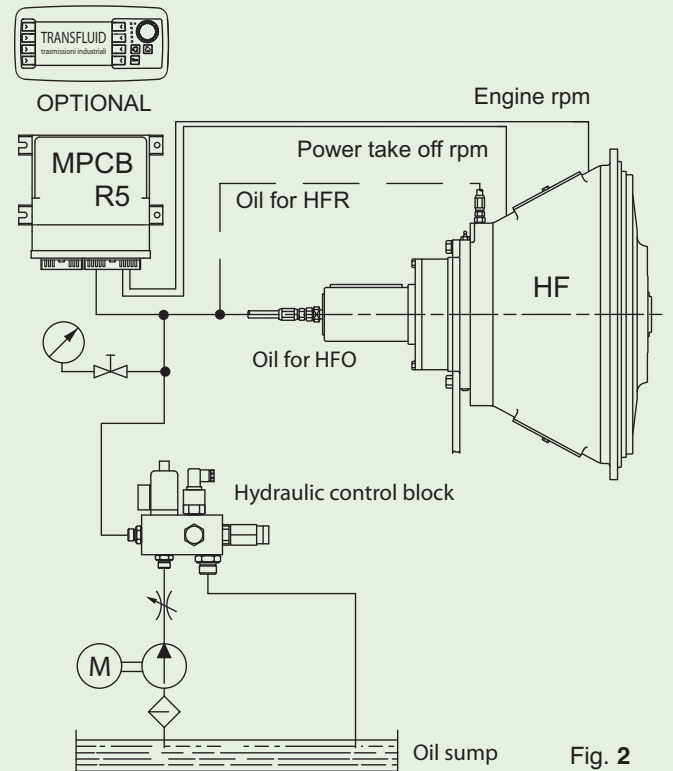

Fig. 2
- By Power Pack, a compact power system that deliver oil in pressure (fig.2) or Air Pack, is a compact power system that delivers air in pressure